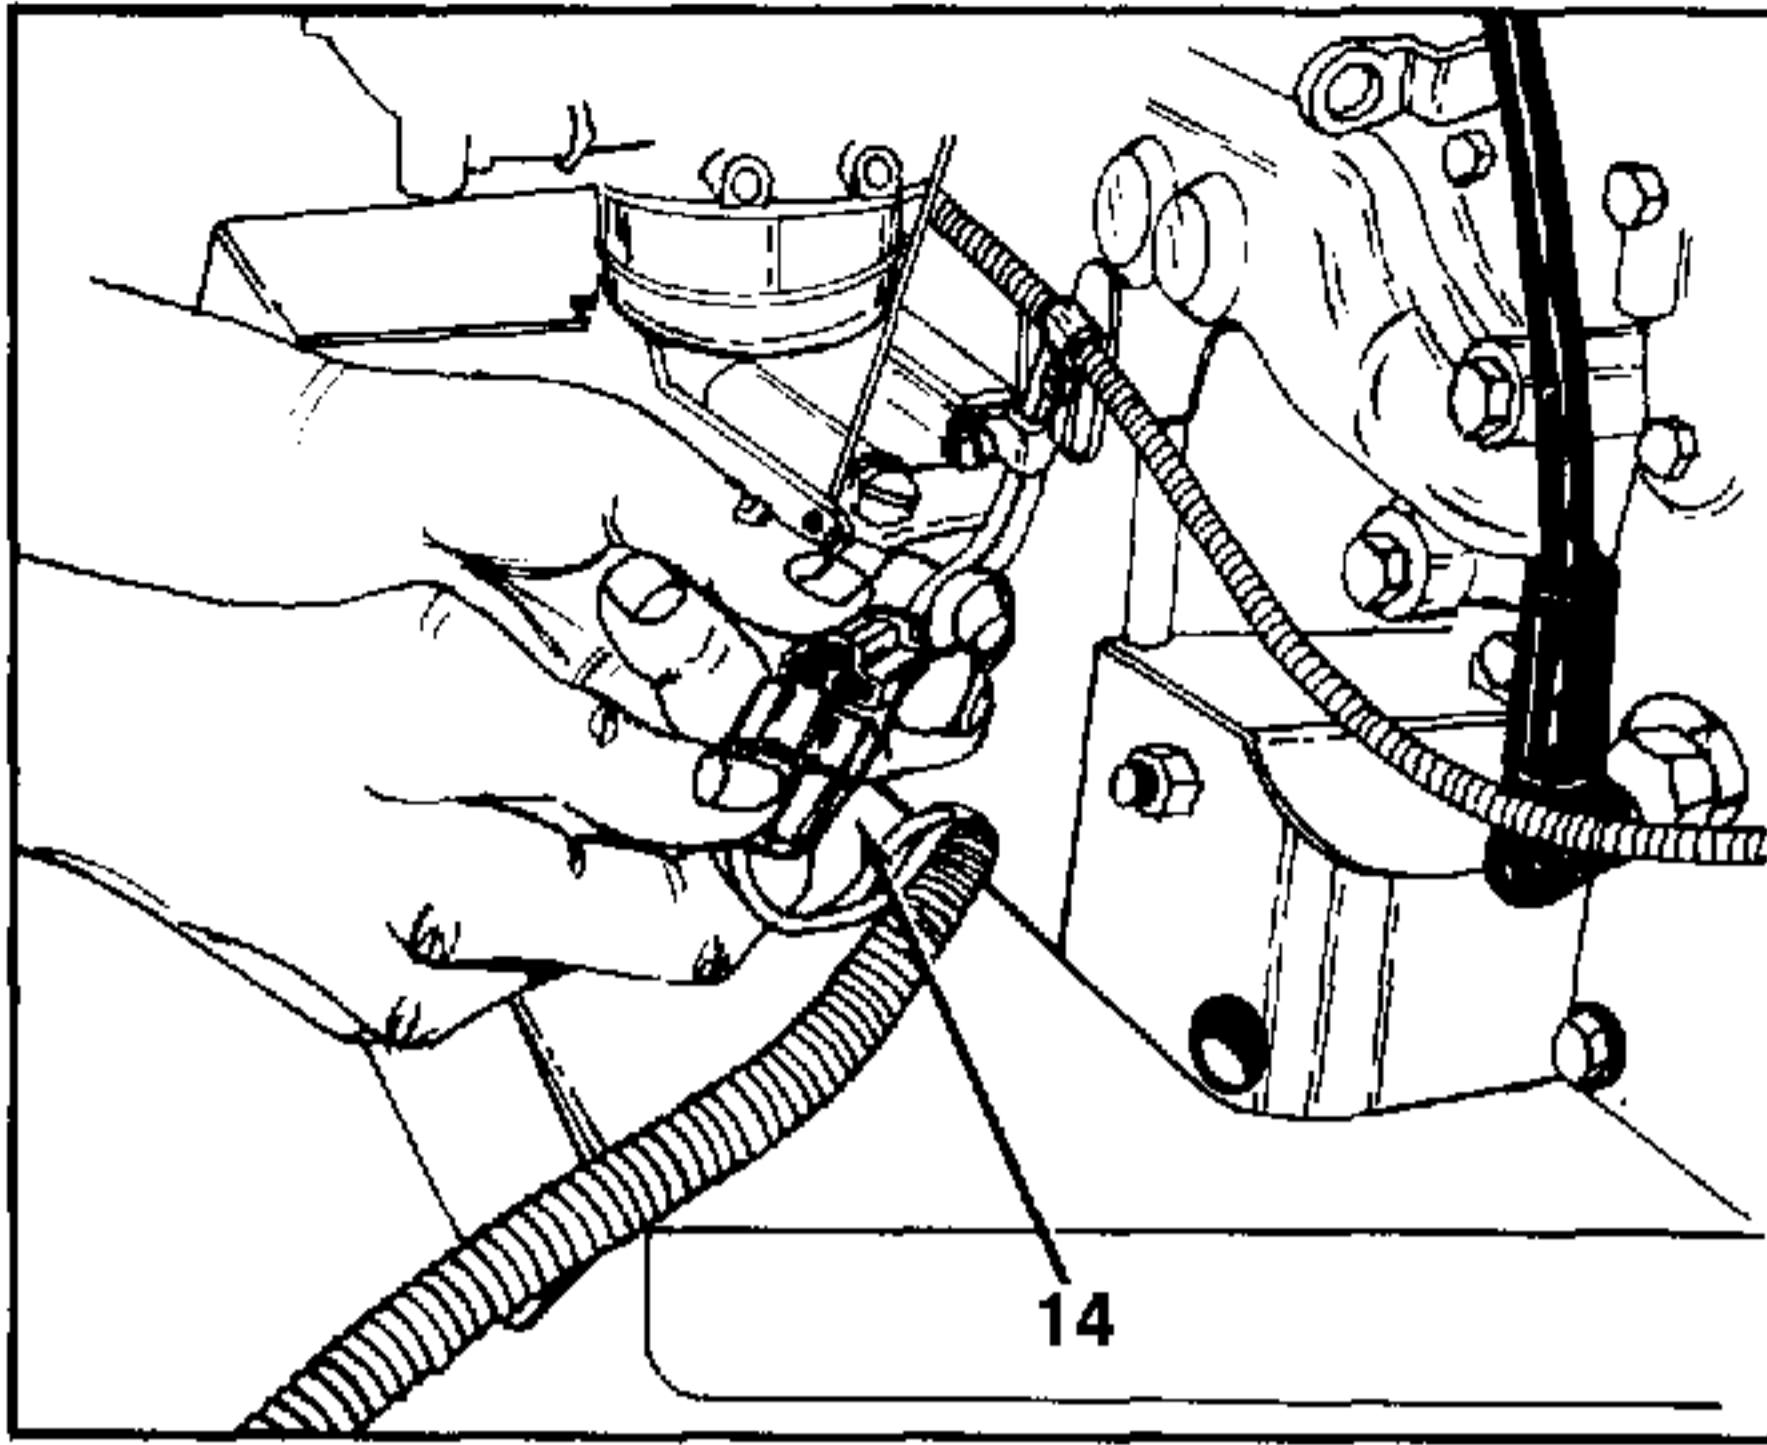

FIGURE 7.
10. Disconnect the main wire harness connection. See figure 7.